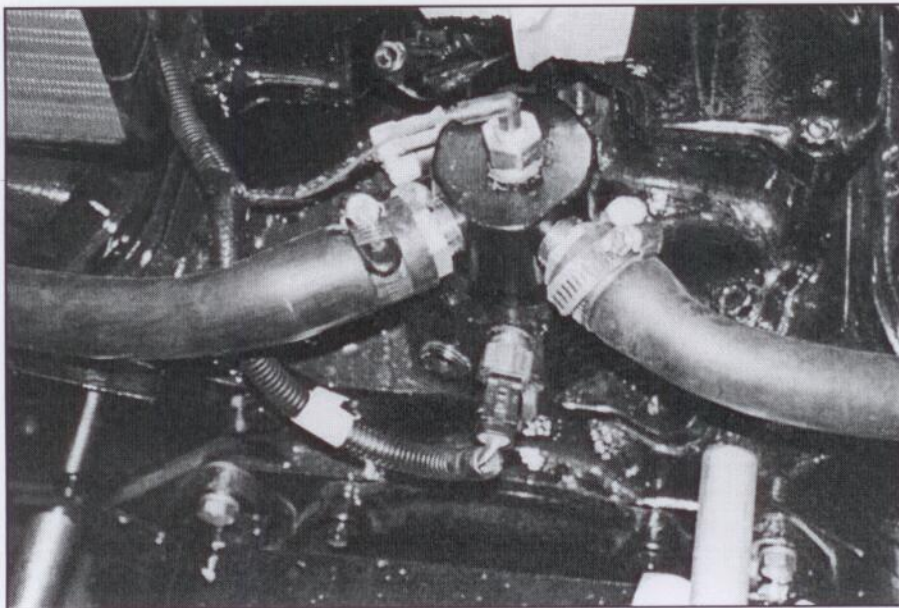

FIGURE B1
4. Install the ATI provided thermostat housing using the supplied gasket and bolts. Do not install a thermostat! Install second sending unit from stock Mercruiser thermostat housing into top of supplied thermostat housing. See figure B1.